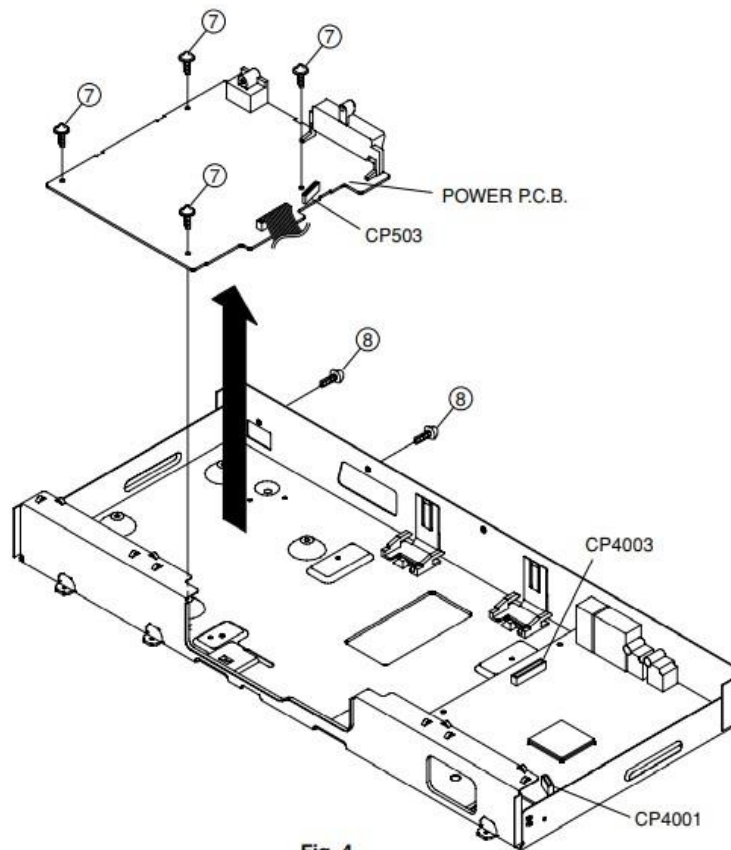

**Fig. 3**
**Step 5: Removal of DVD Mechanism Unit. (Fig. 3)**
- a. Short circuit the position shown in Fig. 3 using a soldering iron. If you remove the DVD Mechanism Unit with no soldering, the Laser may be damaged.
- b. Remove 4 screws (6).